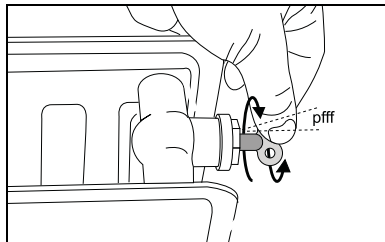

Fig. 7 Purging a radiator (example)
- Purge the heating system via the air vents/valves on the heating bodies. Start at the first floor of the premises and then work your way up (fig. 7).